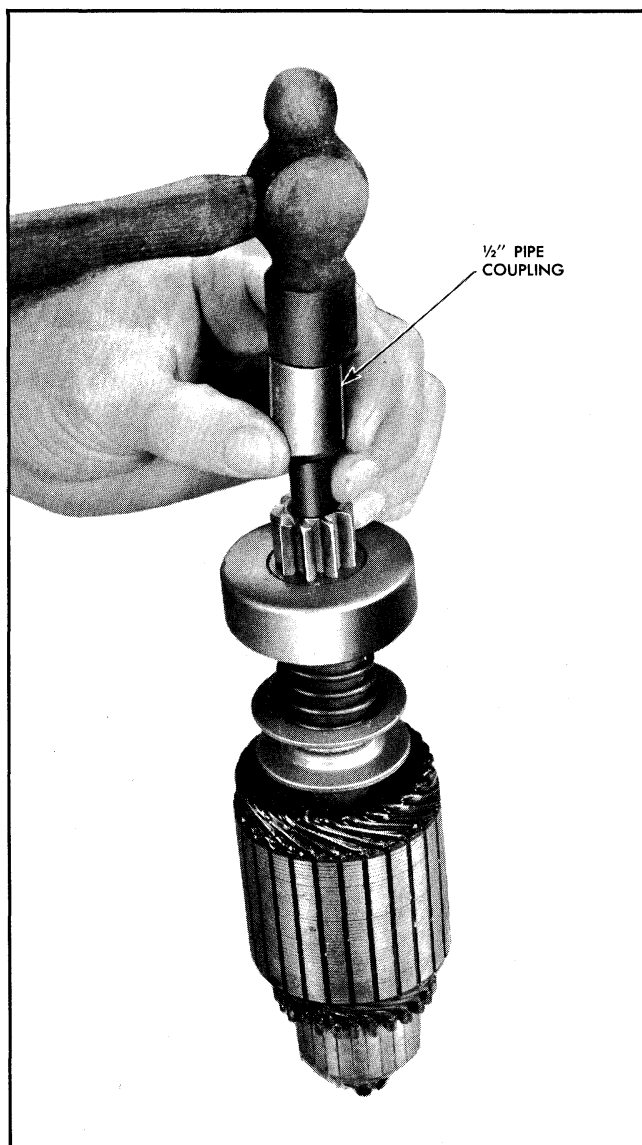

Fig. 11-11 Driving Retainer Off Snap Ring
other metal cylinder of suitable size (an old pinion of suitable size can be used if available) onto shaft so end of coupling or cylinder butts against edge of retainer (Fig. 11-11). Tap end of coupling with hammer, driving retainer towards armature and off snap ring.
b. Slide clutch assembly onto armature shaft with pinion outward (Fig. 11-11).
c. Slide retainer onto shaft with cupped surface facing end of the shaft (Fig. 11-11).